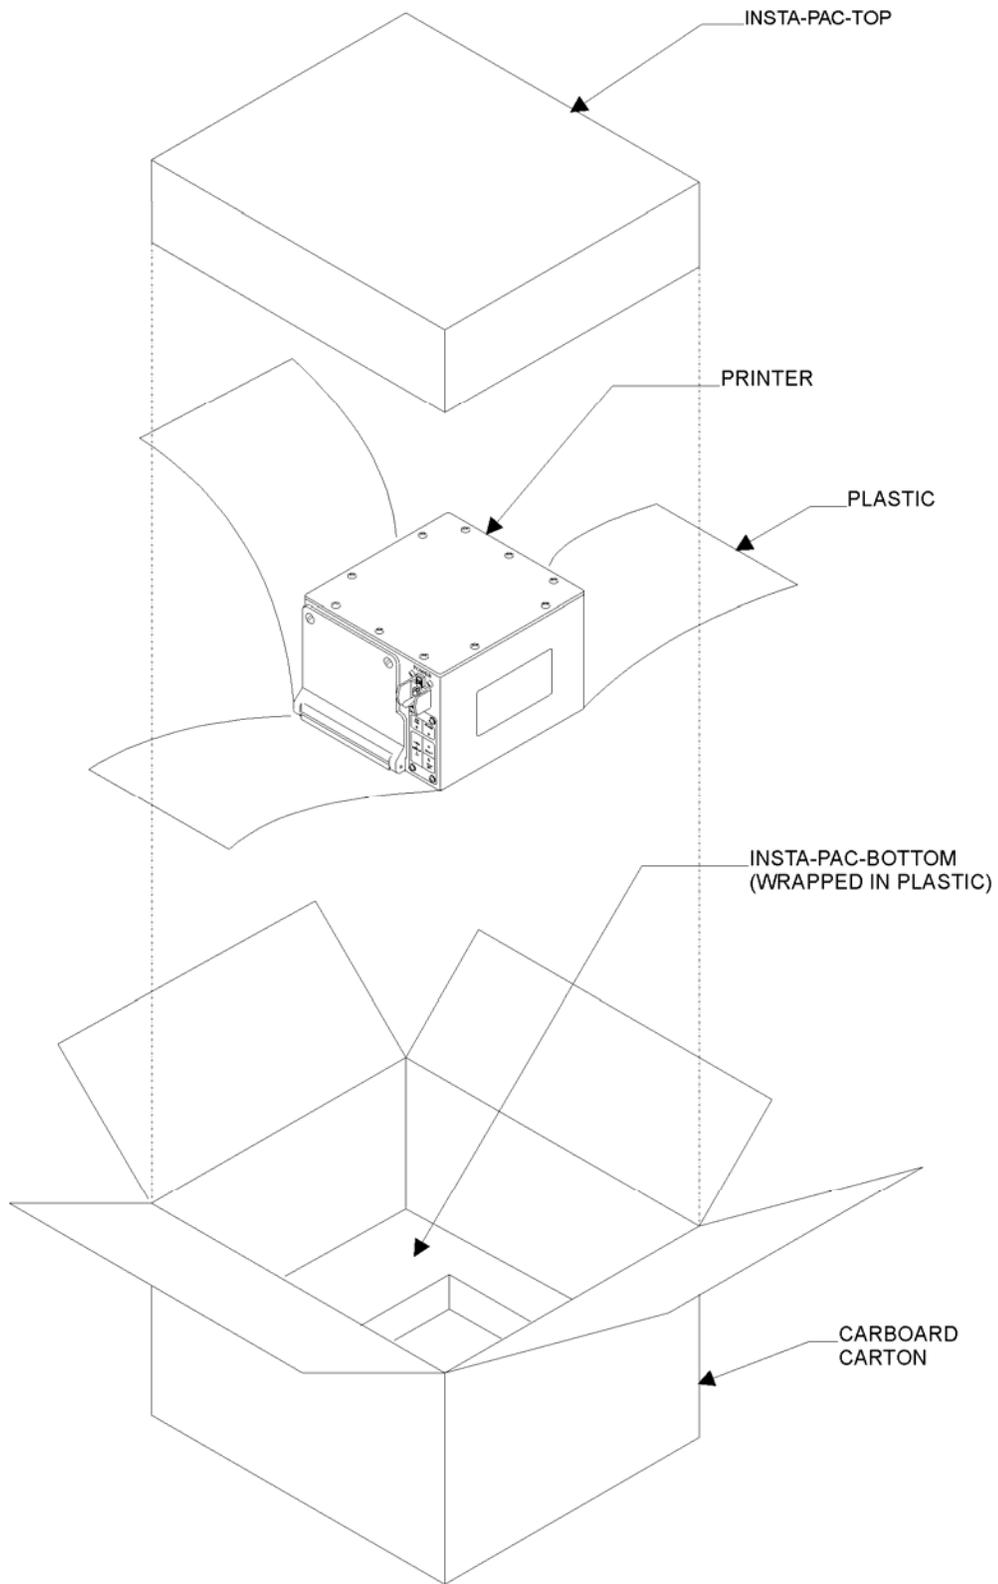

Figure 2-1. Printer Packaging
- a. Use Figure 2-1. Cut through tape that seals cardboard carton.